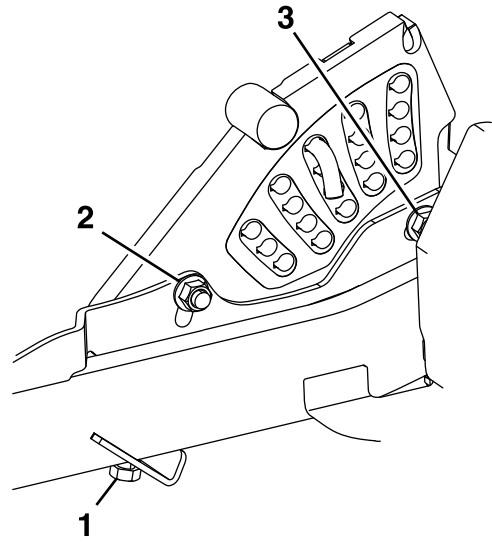

Figure 78
11. If the 4 deck adjusters do not have enough adjustment to achieve the accurate height of cut with the desired rake, you can adjust the single-point system (Figure 78).
12. To adjust the single-point system, first loosen the front and rear height-of-cut plate mounting bolts (Figure 78).
14. Tighten the 2 bolts at the bottom of the height-of-cut plate (Figure 78).